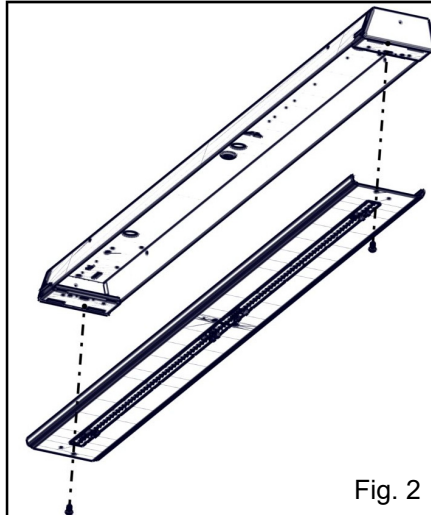

Fig. 2
4. Remove fasteners from LED tray to housing and disconnect LED power cable from LED driver and remove tether cable. (place tray in safe place to avoid damage) Fig.2